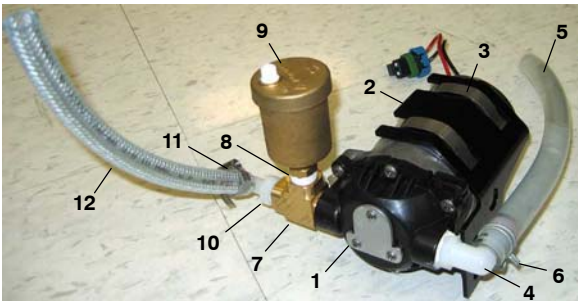

Fig. 34
2. Assemble the pump assembly as shown (Figure 34). Use a thread sealer tape on all fittings.
Pump Assembly Parts List (Figure 34)